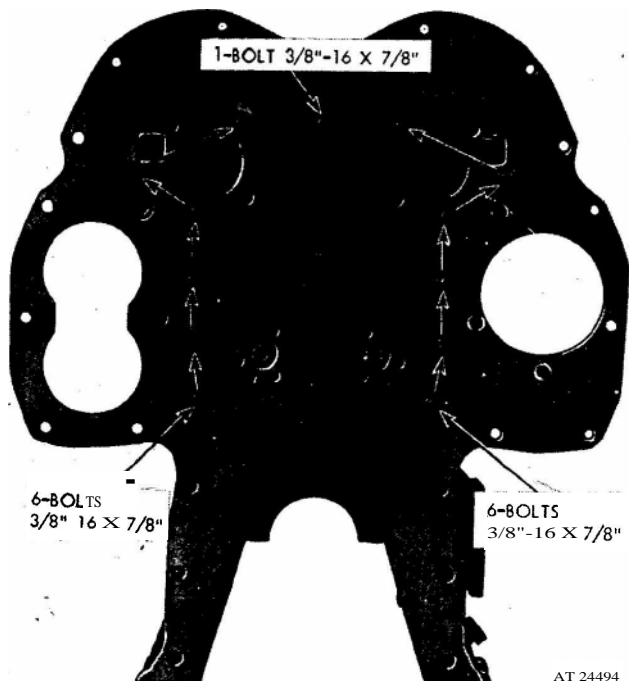

Figure 1. Cylinder block rear end plate mounting—in-line engines.
3. Refer to figure 1 for the location and install the $\frac{3}{8}$ "-16 x 7/8" bolts with lockwashers. Tighten the bolts to 30-35 lb-ft torque.